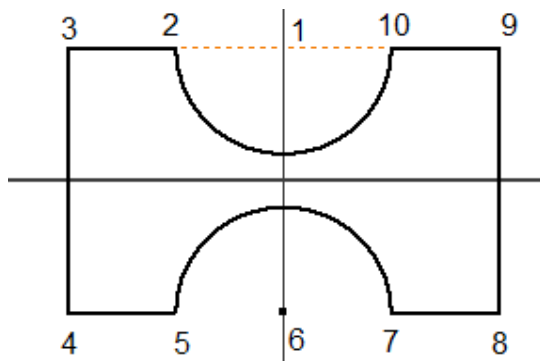

Figure 2-92 Sketch showing different points
- Press the Tab key and enter **0** in the X coordinate edit field of the Dynamic Input. Again, press Tab and enter **0** in the Y coordinate edit field. Next, press Enter to specify the center of the arc; the center of the arc (Point 1) is created, as shown in Figure 2-92, and you are prompted to specify the start point of the arc.
In Figure 2-92, the major and minor grid lines, and the triad have not been displayed for better display of the sketch and the imaginary lines.
3. Enter 12 in the length input field, press Tab, enter 90 in the angle input field of the Dynamic Input, and press Enter; the first point (Point 2) on the arc is defined, refer to Figure 2-92. Now, you need to specify the endpoint of the arc.
9. Move the cursor right, enter **12>Tab>90>Enter**. Figure 2-92 shows the different points of sketch for Tutorial 2.
11. Enter **24** in the length input field, press Tab, enter **90** in the angle input field in the Dynamic Input, and press Enter; the endpoint (Point 7) on the lower arc is defined, refer to Figure 2-92. Now, you need to specify the center point of the arc.